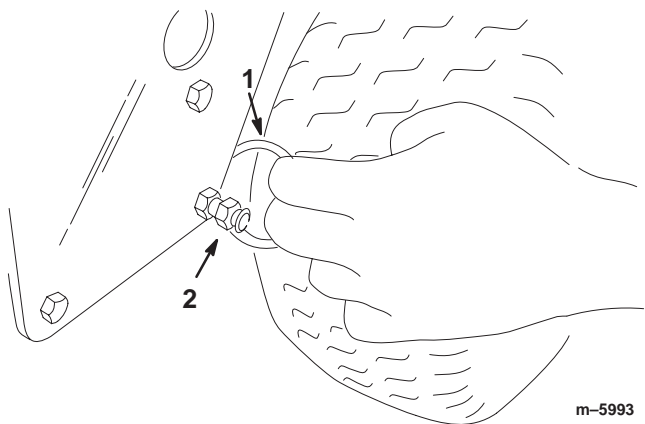

Figure 20
- Grasp split ring (Fig. 20) on right side of machine, pull ring and chain straight out from side of machine and hook ring over control shield bolt.